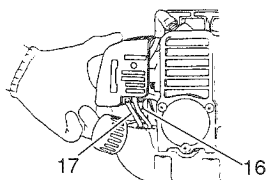

Fig. 12
* Push priming bulb (16) several times so that fuel flows through return pipe (17). (Fig. 12)